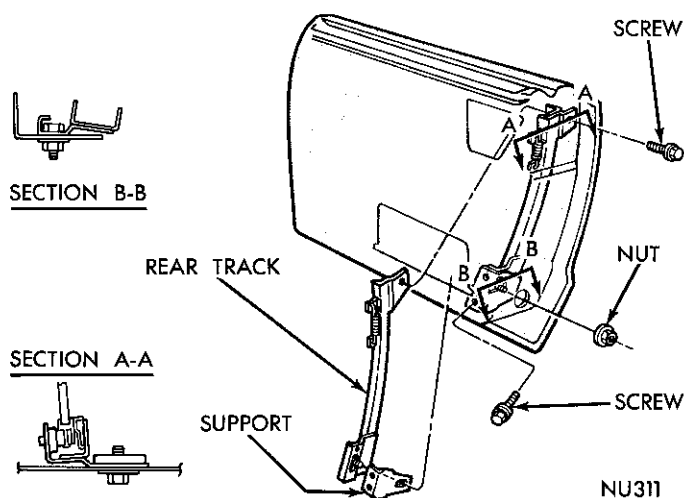

Fig. 37—Glass Rear Track
- (1) Remove the door glass and front track assembly.
- (2) Remove screw attaching track upper bracket to door lock face and nut attaching track lower bracket to lower support (Fig. 37).
- (3) Remove track assembly through large access hole in door panel.